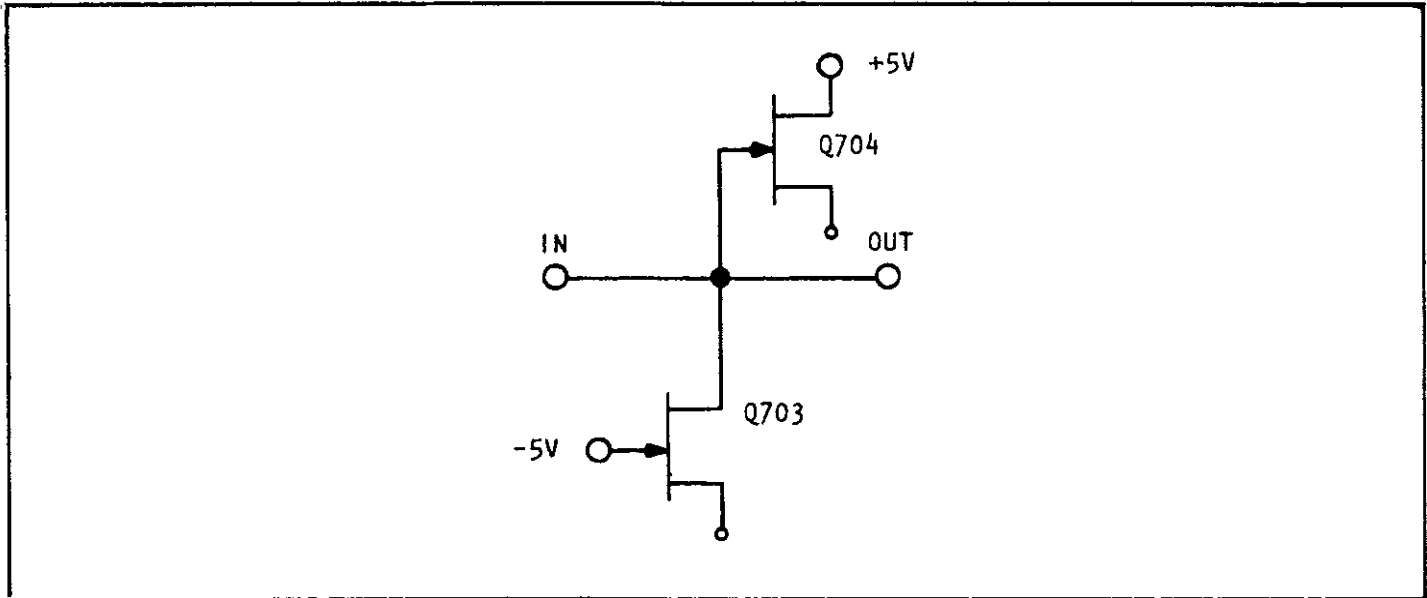

FIGURE 5-9. Simplified Schematic of Clamp.
g. Clamp Circuit (Figure 5-9).